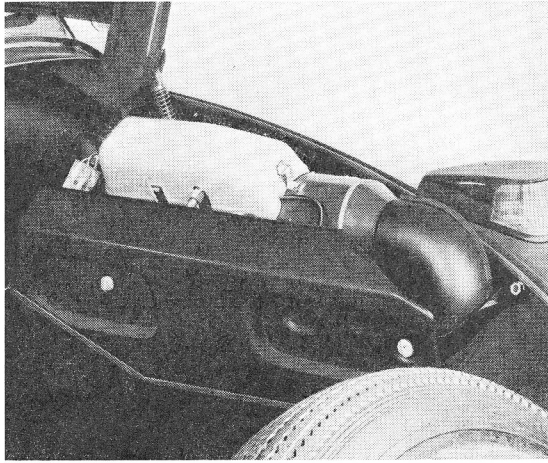

Fig. 21
- 21 – Shorten luggage compartment lining by 260 mm (a). See Figure 1. Secure cover plate (see Figure 21).